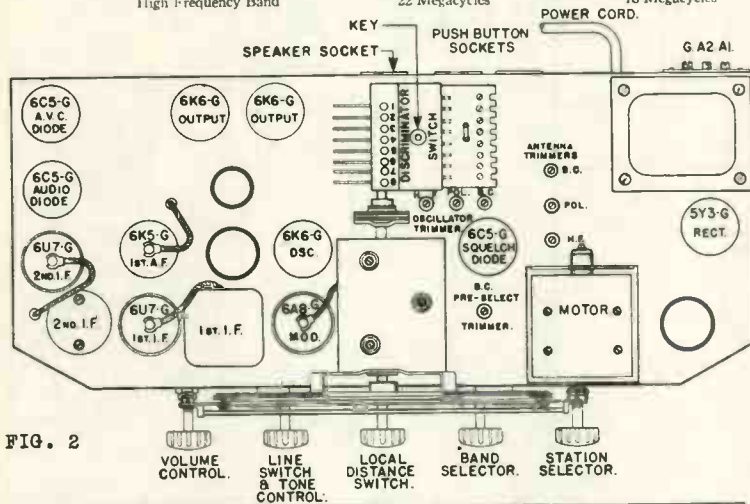

FIG. 2
(c) To align the series trimmer (See Fig. 2), set the signal generator to the frequency indicated below (D) and then tune-in this signal with the station selector for maximum output. To obtain the best adjustment for the series trimmer, it will be necessary to rotate the station selector back and forth slightly while adjusting the trimmer for maximum output. Minor tolerance variations in series alignment at 2500 kilocycles in the Police Band and at 7000 kilocycles in the High Frequency Band may be compensated for by slight reposition of the grid lead of the antenna coil in the Band affected.